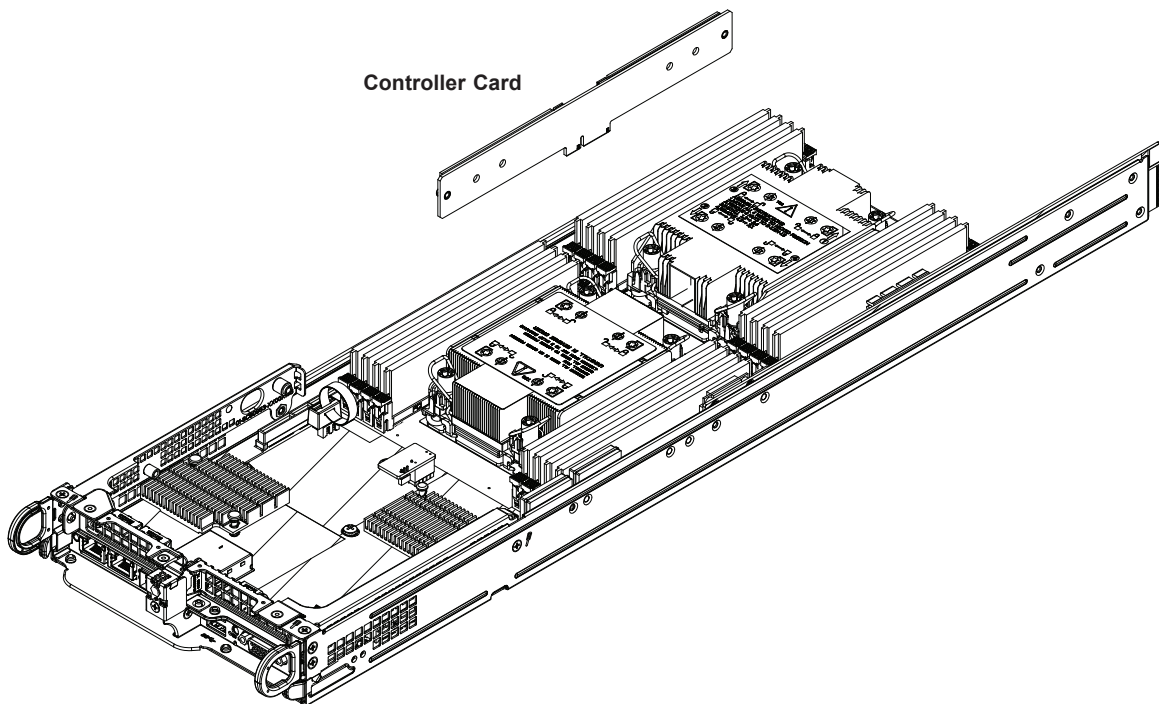

Figure 3-8. M.2 Storage Controller Card Slot
2. Use the handle to pull the carrier out of the chassis (Figure 3-8).